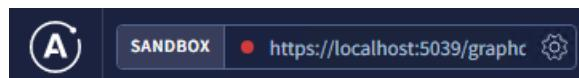

Figure D.4 Disconnected Server Indication
- Step 3. If the localhost address entered into the Sandbox text box has a red indicator dot, as seen in *Figure D.4*, Apollo GraphQL cannot connect to the GraphQL server. To resolve this, you need to first connect to the offline sandbox to allow connections to the GraphQL API by performing *Step 1* and *Step 2* in *Launching the SEL Grid Configurator Sandbox (No Internet Access Required) on page 164*.